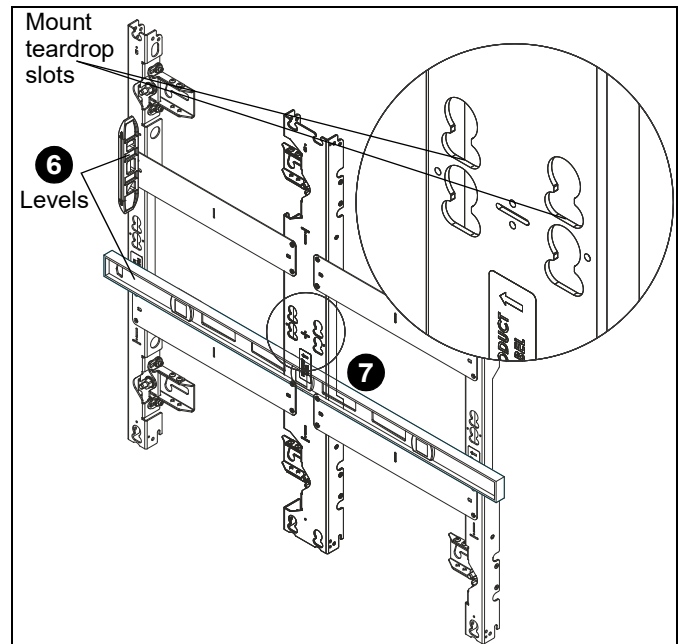

Figure 11
6. Place a level across front of the mount at bottom of teardrop slots. (See Figure 11)
7. Check the level of the mount at the bottom of the teardrop slots. (See Figure 11)